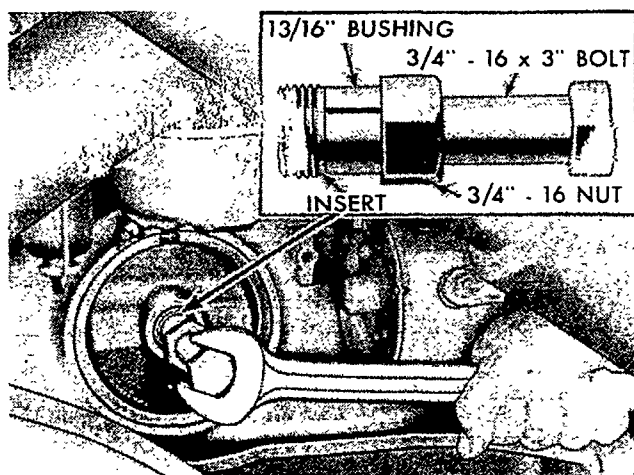

Figure 37—Removing Insert from Cylinder Block
3. Place a $1\frac{3}{16}$ " bushing or washer on a $\frac{3}{4}$ " — 16 x 3" bolt and nut as shown in Figure 37. Thread the bolt into the insert in the cylinder block. Tighten the nut on the $\frac{3}{4}$ " bolt to seat the bushing against the insert. Turn the bolt counterclockwise to remove the insert from the cylinder block, Figure 37.